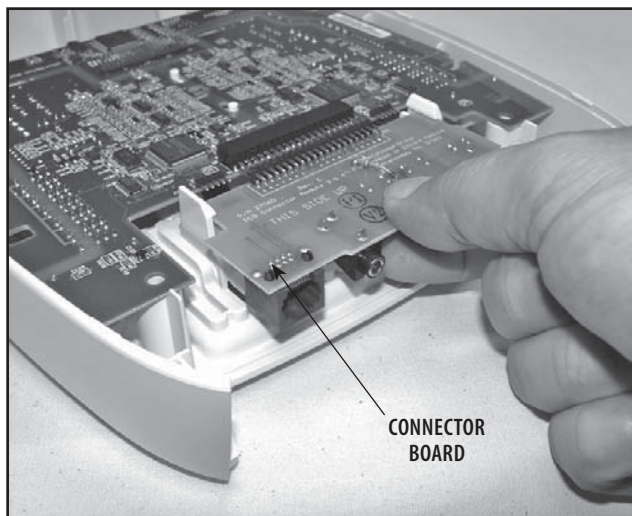

FIGURE 6.48
3. Remove Module Connector Board. See Figure 6.48.